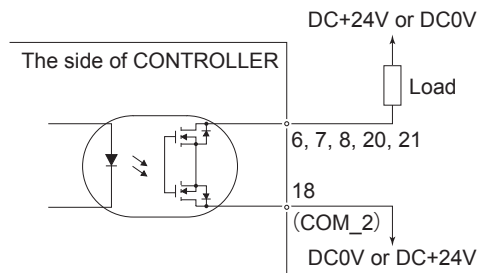

Fig. 23
(4) Setting the Motor Speed
Setting parameter (P2) to ON allows the motor speed to be adjusted in Auto Mode using the Motor Speed Adjustment Button (SPEED  , ) ⑮ of the Fig. 23.
Use an external power source for output circuits. It is recommended to use the same DC+24V power source used for input signals. Please refer to Fig. 23 for connections.